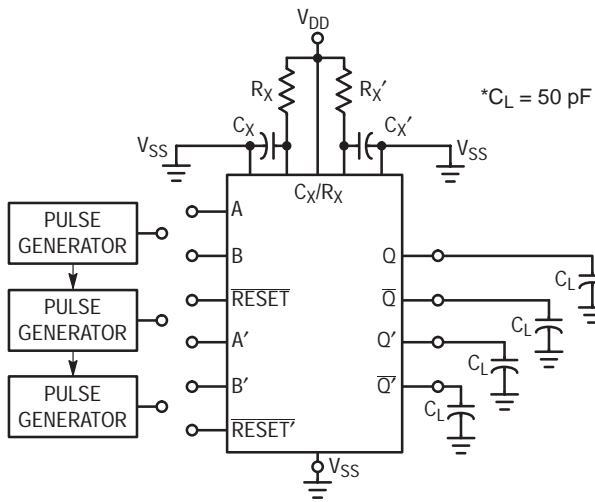

**Figure 1. Logic Diagram
The block diagram of the MC14538B is shown in Figure 1, with circuit operation following.
As shown in Figure 1 and 10, before an input trigger occurs, the monostable is in the quiescent state with the Q output low, and the timing capacitor  $C_X$  completely charged to  $V_{DD}$ . When the trigger input A goes from  $V_{SS}$  to  $V_{DD}$  (while inputs B and  $\overline{\text{Reset}}$  are held to  $V_{DD}$ ) a valid trigger is recognized, which turns on comparator C1 and N-channel transistor N1. At the same time the output latch is set. With transistor N1 on, the capacitor  $C_X$  rapidly discharges toward  $V_{SS}$  until  $V_{ref1}$  is reached. At this point the output of comparator C1 changes state and transistor N1 turns off. Comparator C1 then turns off while at the same time comparator C2 turns on. With transistor N1 off, the capacitor  $C_X$  begins to charge through the timing resistor,  $R_X$ , toward  $V_{DD}$ . When the voltage across  $C_X$  equals  $V_{ref2}$ , comparator C2 changes state, causing the output latch to reset (Q goes low) while at the same time disabling comparator C2. This ends at the timing cycle with the monostable in the quiescent state, waiting for the next trigger.